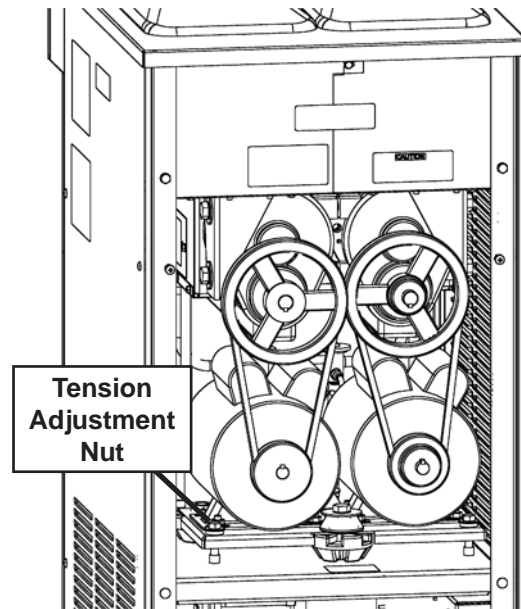

Figure 6-3 Belt Tension Adjustment
5. Loosen the belt tension adjustment bolt and remove the belt. (Refer to Figure 6-3)